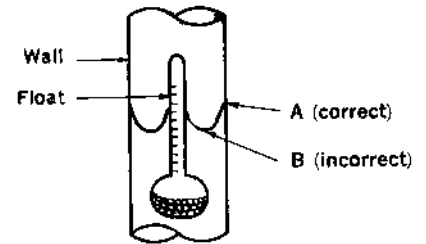

Fig. 117 Hydrometer
- 2) Read the hydrometer at A (upper level of contact) instead of B (lower level) as shown in Fig. 117.